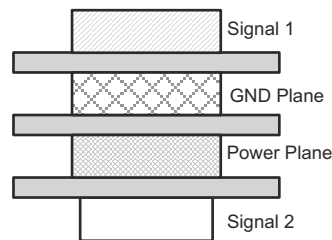

Figure 8-3. Four-Layer Board Stack-Up
9. Due to high frequencies associated with the USB, a printed circuit board with at least four layers is recommended; two signal layers separated by a ground and power layer as shown in Figure 8-3.